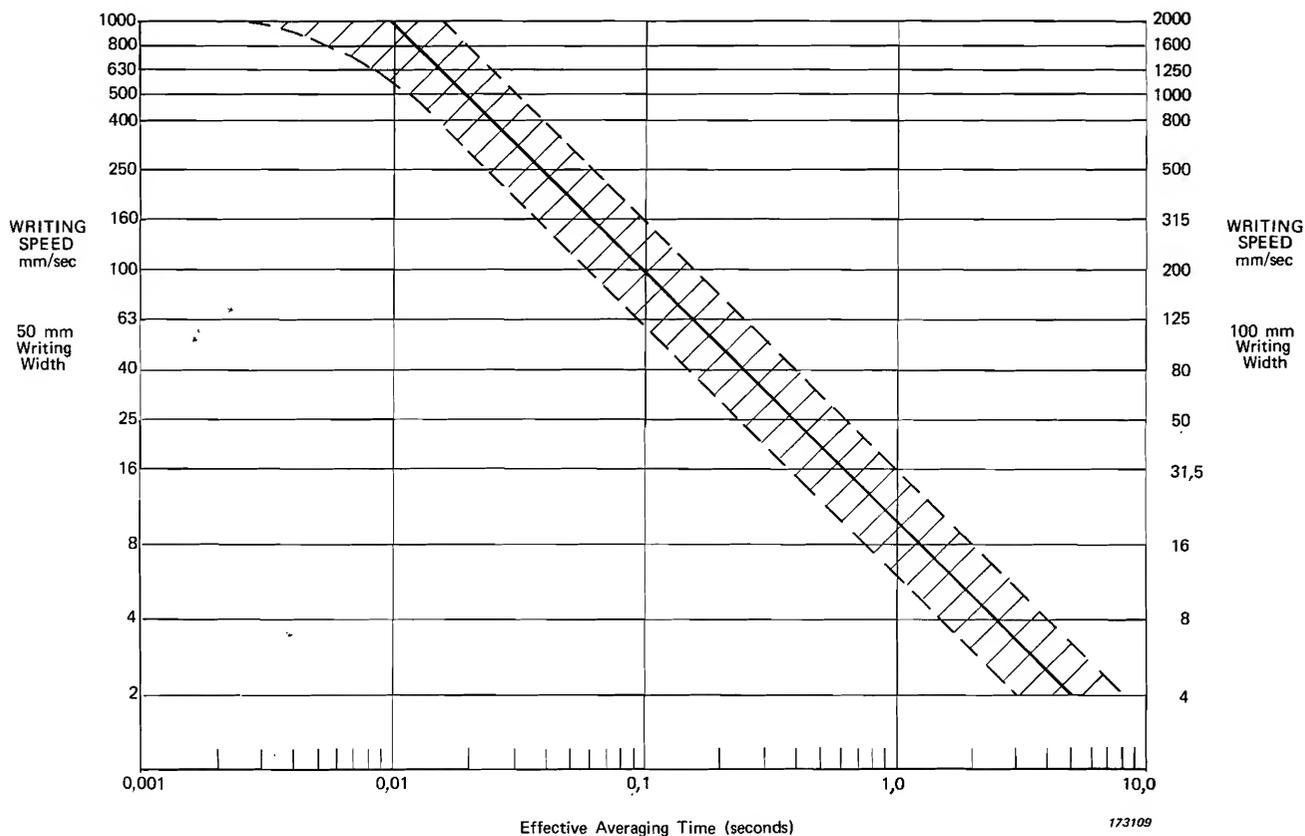

Fig. 6.2. Effective averaging times as a function of writing speed
With AC recording the AC output of the RECORDER socket of the 2606 is used. Rectification and part of the averaging of the signal fluctuations is then performed electronically by the Rectifier Circuit of the Level Recorder with the remaining signal averaging taking place in the Recorder's writing system. The most influential control which affects averaging is the WRITING SPEED selector, but is also to some extent influenced by the setting of the LOWER LIMITING FREQUENCY control. Empirical data suggests that the effective averaging times as a function of WRITING SPEED may be represented by a double logarithmic plot as shown in Fig.6.2. There is, however, some spread in the data owing to LOWER LIMITING FREQUENCY settings as well as signal characteristics (e.g. crest factor, bandwidth etc.), and this is also indicated in Fig.6.2. The left hand limit of this spread is a theoretical limit corresponding with zero pen movement. For normal settings of the 2305 and 2307 Level Recorders and pen movements of 12 to 16 mm peak to peak for 100 mm writing widths (6 to 8 mm for 50 mm writing width), most of the effective averaging times will be in the shaded area of Fig.6.2. Fig.6.2 may be used with all Range Potentiometers.
4. For AC recording averaging of small signal fluctuations (between 12 and 16 mm for 100 mm paper widths) is controlled by the WRITING SPEED selector of the 2305 or 2307 Level Recorder. To minimize ripple on the recording set the WRITING SPEED selector to 100 mm/s (large figures) for recording signals with components down to 10 Hz or to 31,5 mm/s for recording of signals with components down to 2 Hz. The effective averaging times obtained with these WRITING SPEED settings approximate the 100 ms averaging time of the "RMS Fast" METER FUNCTION mode of the 2606 and the 500ms averaging time of the "RMS Slow" METER FUNCTION. The effective averaging times available using other settings of the WRITING SPEED CONTROL are given in Fig.6.2.